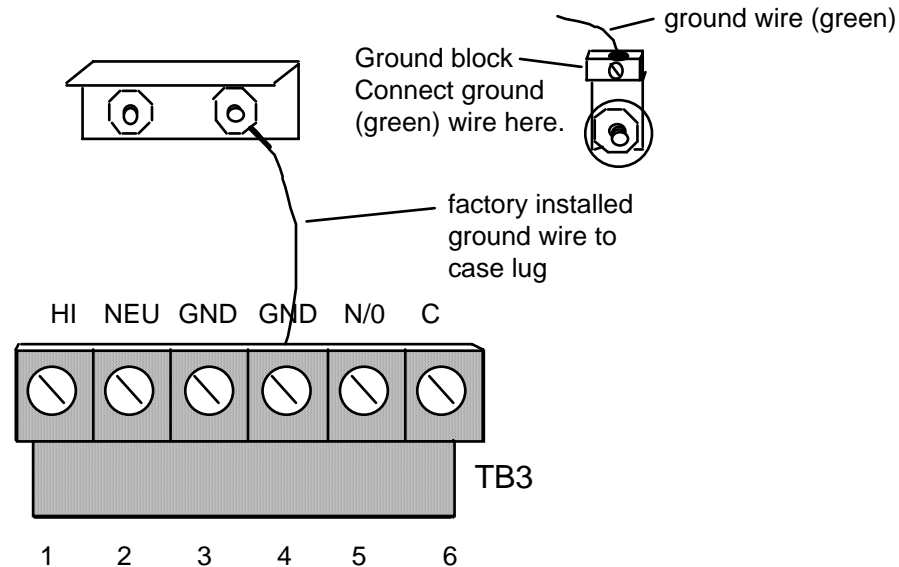
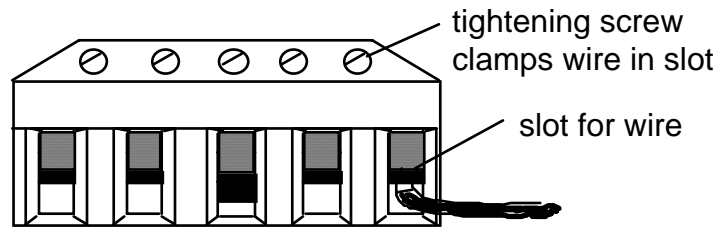

Figure 2-3. Wiring connector and ground block for AC power and stop circuit.
Figure 2-4. Inserting wires into connector
6. First connect the ground (green or green/yellow) wire. It must be connected to the ground block as shown in Figure 2-3, not to "GND" terminal on the connector. The ground block is located on the wall of the box at top right. To connect to ground block, strip ground wire about 1/4" (6.4 mm) from end, loosen screw on block, slide wire in hole, and tighten screw to pin wire in place.
NOTE: A ground wire is attached from the connector to a case lug as shown in Figure 2-3. Leave the ground wire attached to the connector while making connections. *If you remove this wire in order to pull the connector all the way out of the box, be sure to replace it when done.*
8. Connect wires to the L-shaped top section as shown in Figure 2-3. For 115 Vac, connect black wire to HI slot and white wire to NEU. (For 230 Vac connect black wire to HI slot and red wire to NEU). To connect a wire, find the correct slot and loosen the screw over that slot by turning it counterclockwise (see Figure 2-4). Strip the correct wire for this slot 1/4" (6.4 mm) from end. Insert bare wire into slot 90% of the way. Tighten the screw. Metal tooth inside slot will clamp down on the bare wire for a tight connection. Make sure the metal tooth is clamped down on the bare part of the wire, not on the insulation. If on the insulation, you will have a bad connection.
10. Plug the connector back into its terminal. Double check connections with markings at the connector base to make sure you did not wire it backwards. (Note: first "GND" from left in Figure 2-3 is not used).